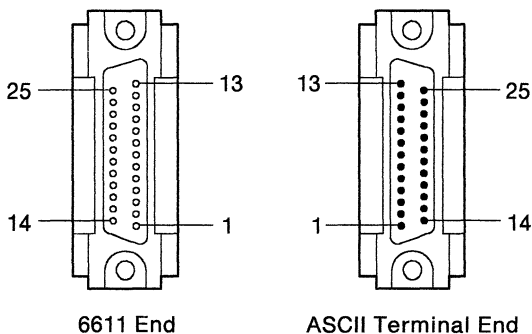

*Figure 10-2. Connecting a Terminal to an EIA 232 Serial Port for Models 140 and 170*
**Models 140 and 170:** You must provide a cable to connect the ASCII terminal or emulator to the EIA 232 serial port. Two 10-to-25-pin converter cables and a terminal interposer are shipped with the IBM 6611. You need one of these converter cables and the terminal interposer to connect the terminal cable to the IBM 6611, as illustrated in Table 10-4 on page 10-7 and Figure 10-2 on page 10-7.